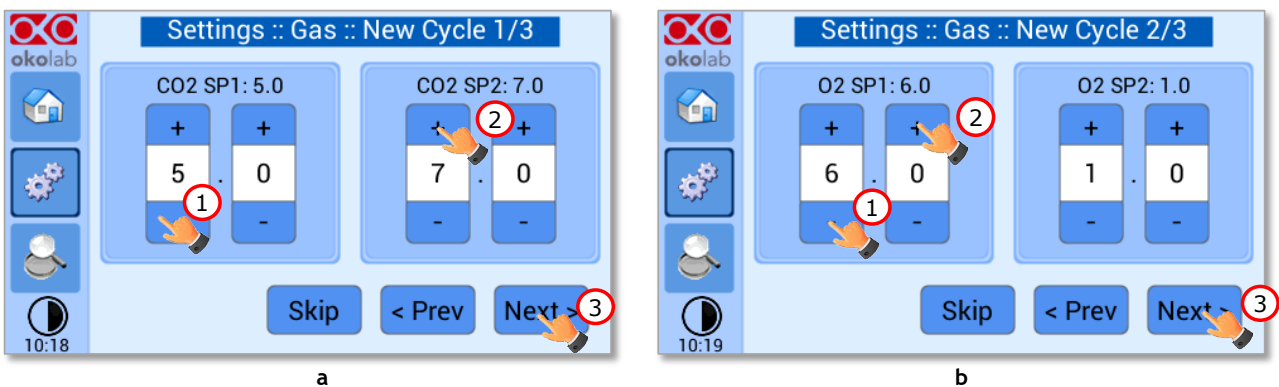

Figure 52. CO₂ and O₂ Concentrations cycles settings (a - b).
1. Choose the two CO₂ and O₂ concentrations between which you want to switch (*SP1*: Setpoint 1 and *SP2*: Setpoint 2, as shown in Figure 52).